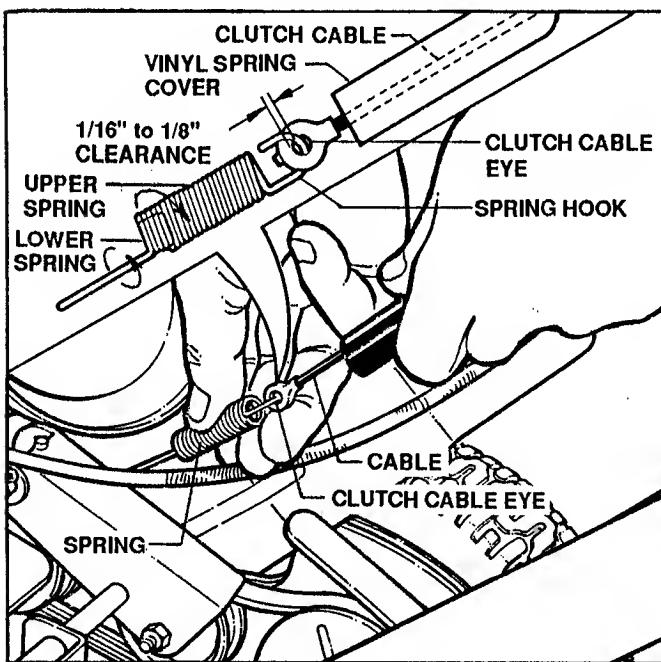

FIGURE 3.9
A. The wheel drive control is properly adjusted when there is $1/16"$ to $1/8"$ clearance between the inside of the spring hook and the inside of the clutch cable eye when disengaged. See Figure 3.9.